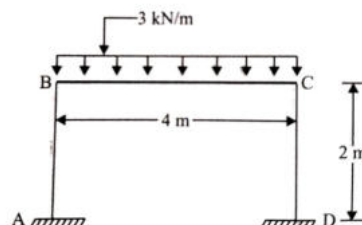

Figure 3.
4. A portal frame is uniformly loaded with 3 kN/m as shown in figure 3. The frame is fixed at A and D and has rigid joints at B and C . Moment of inertia of the members of the frame are same. Draw bending moment diagram and sketch the deflected shape of the portal frame. [14M]